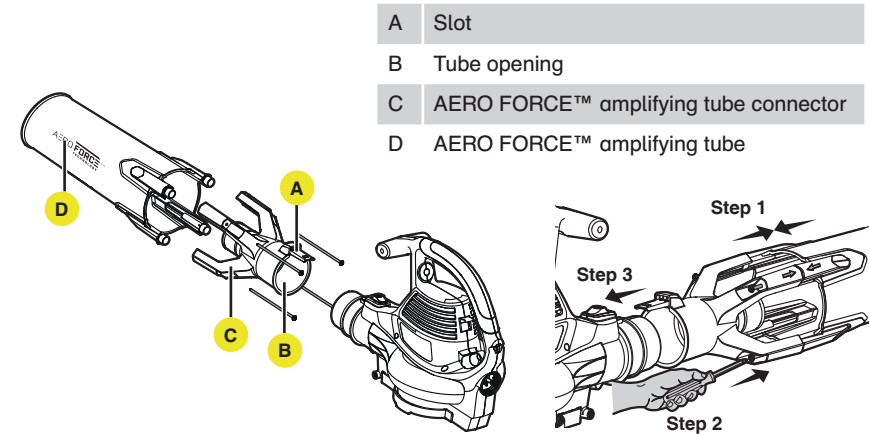

Fig. 1
- Slide AERO FORCE™ amplifying tube connector forward until the tab on the blower housing clicks into the slots on the tube. (Fig. 1)